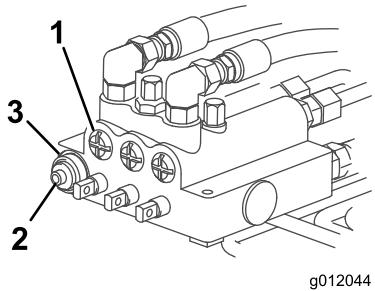

Figure 19
1. Remove the jam nut securing the plug assembly in the lift control valve (Figure 19) Remove the plug and the washers from the lift control valve. Note the order of the components during removal.